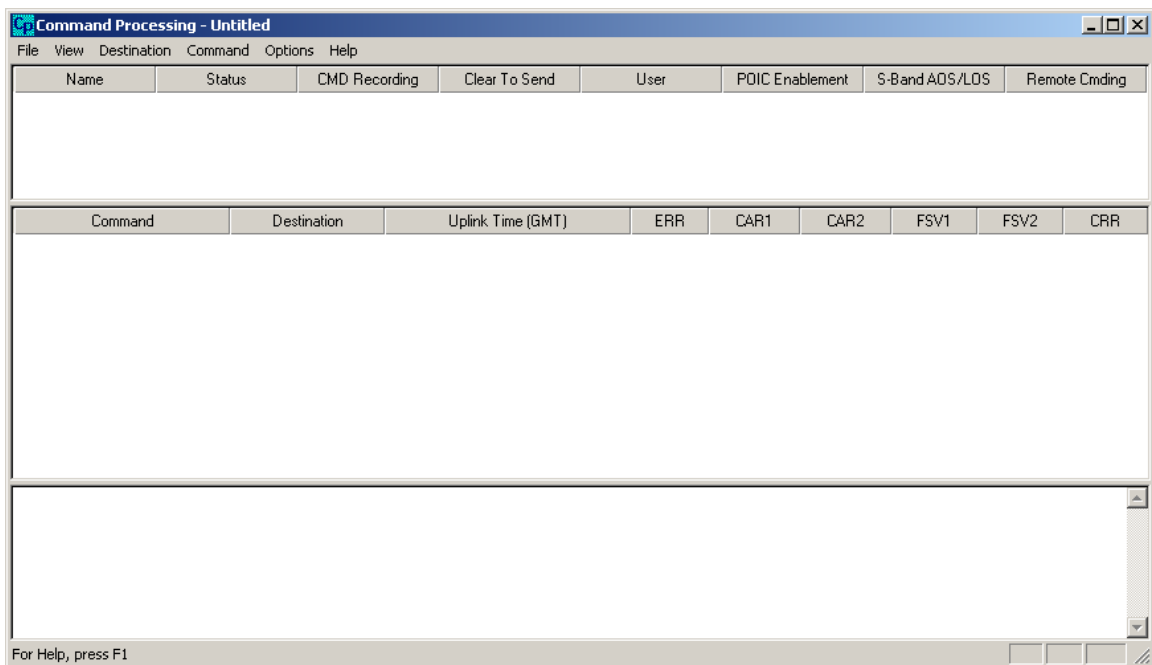

Figure 3 Command Processing Main Window
1. Start the Command Processing application by using the Window's **Start** menu. Go to the Window's **Start** menu, select **Programs**, select **TReK**, and then select **Command Processing**. (Note: If you selected a Program Folder name other than **TReK** during installation, then that name will appear on the Start menu instead of TReK). The **Command Processing** main window as shown in Figure 3 will appear on your screen.